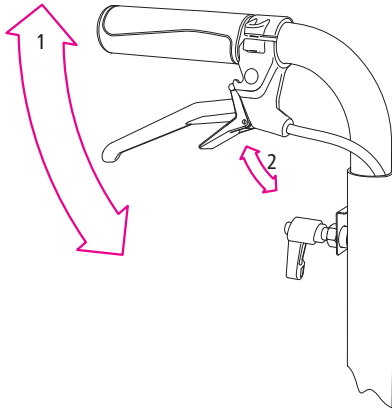

Fig. 16
1. Pull the brake level upward to stop the wheelchair in a controlled manner (1, Fig. 16).
2. To park the wheelchair, you can lock the brake lever. To do this, pull the small locking lever upwards as well (2, Fig. 16). The locking lever will then engage automatically. To release the brake simply pull the brake lever upwards and the locking lever will release automatically.